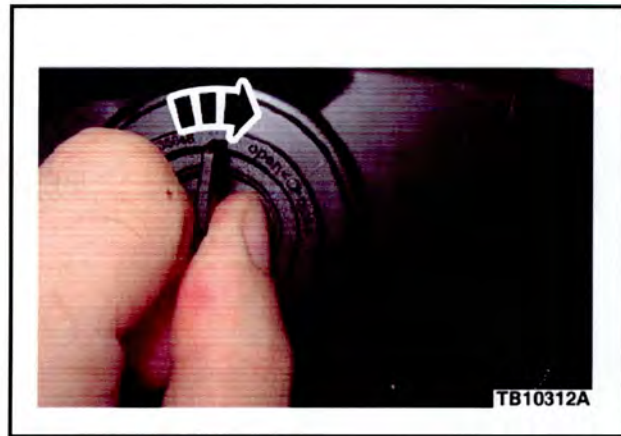

Figure 5 - Article 12-7-12
- c. Turn the socket in clockwise direction until you feel it click into place. (Figure 5)